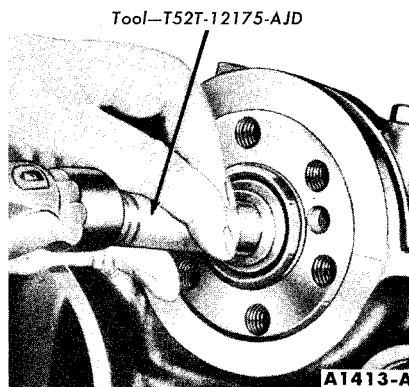

FIG. 88—Clutch Pilot Bushing Installation
by following steps 13 through 16 under "Crankshaft Installation" (page 1-32). Install the clutch pilot bushing (Fig. 88).
38. Install the clutch pilot bushing (Fig. 88). Position the flywheel on the crankcase and install the retaining bolts. Torque the bolts to 75-85 ft-lbs.